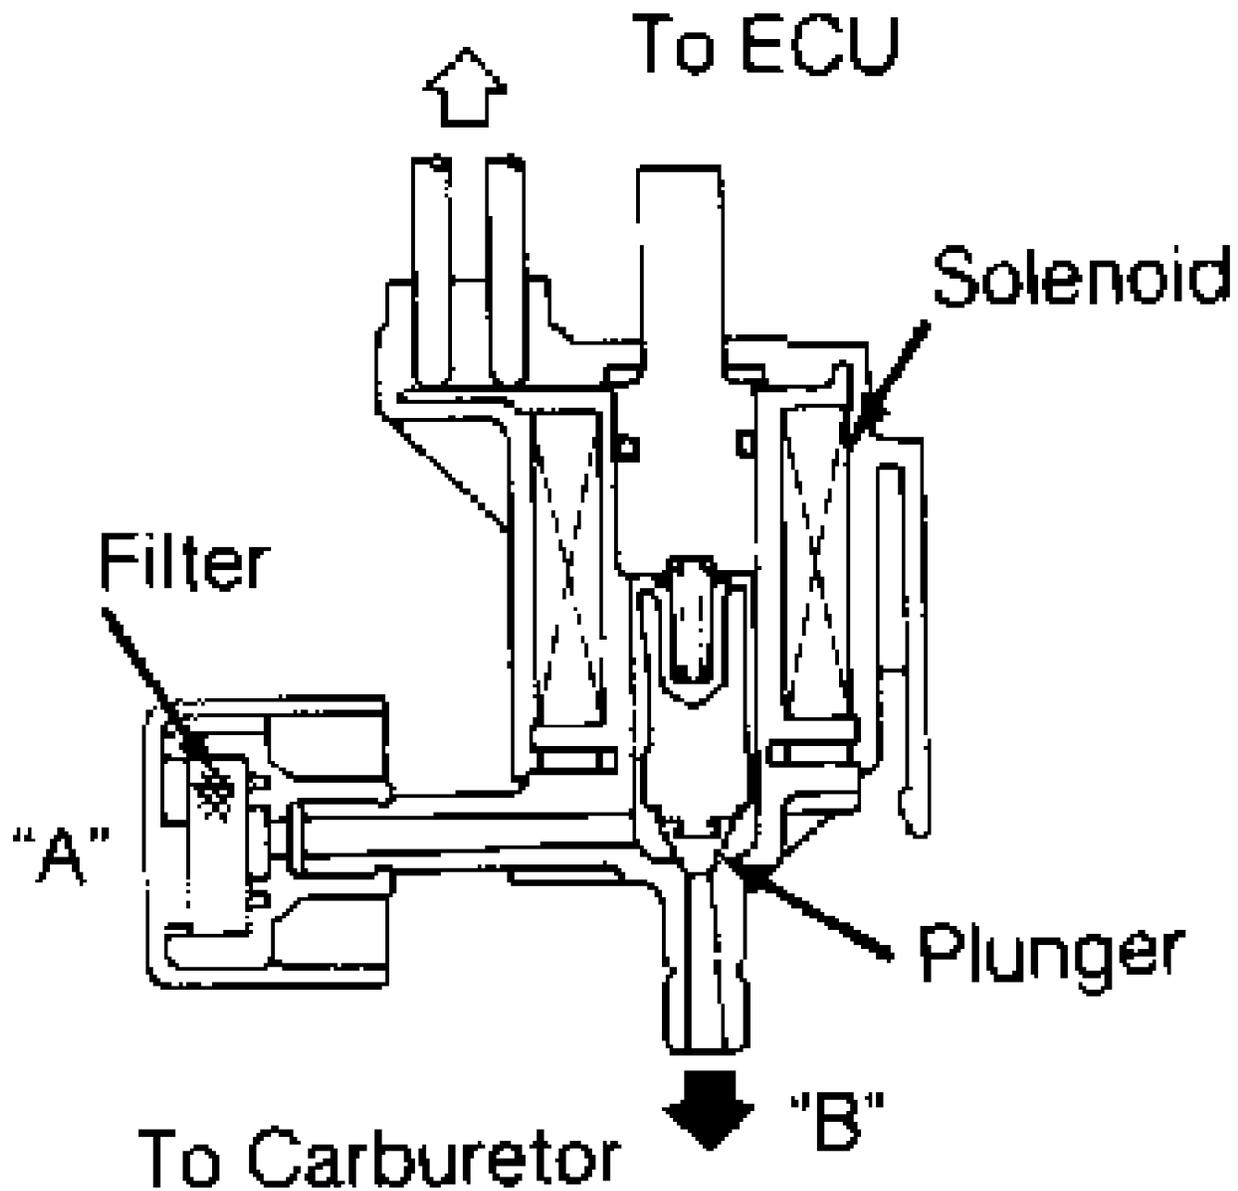

Fig. 17: Testing High Altitude & Vacuum Line Control Solenoid(s)
3) When solenoid is not energized, passage between "A" and "B" should be closed. See Fig. 17. When solenoid is energized, passage between "A" and "B" should be open. If solenoid valve does not operate properly, replace solenoid valve.
3) When solenoid is not energized, passage between "A" and "B" should be closed and passage between "B" and "C" should be open. See Fig. 17. When solenoid is energized, passage between "A" and "B" should be open and passage between "B" and "C" should be closed. If solenoid valve does not operate properly, replace solenoid valve.